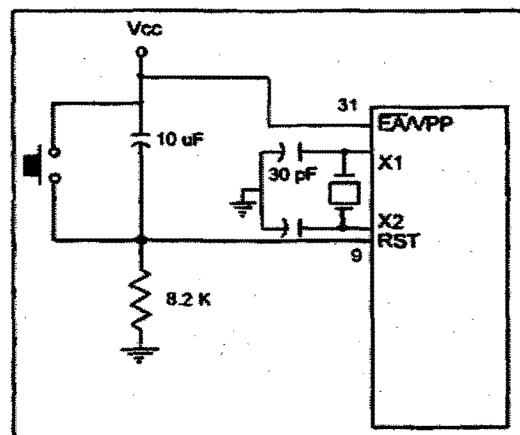

Figure 1
- (b) Figure 1 shows the reset circuitry of the 8051 microcontroller. Explain what is/are the functions of the 10 μF capacitor and the 8.2 K resistor used in the diagram. [4 marks]